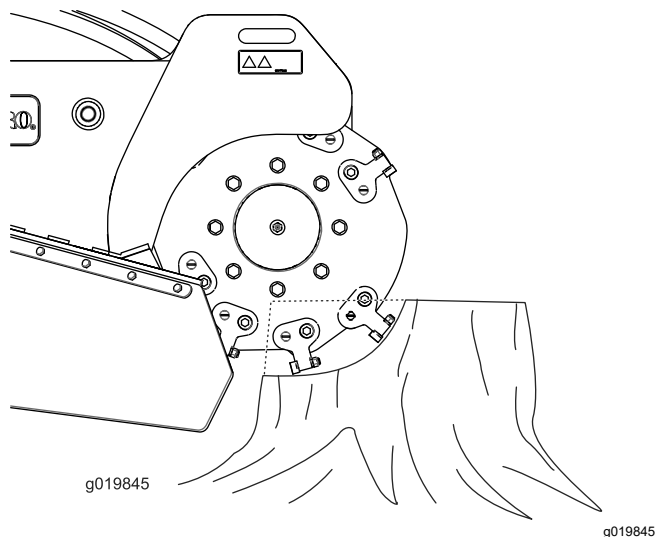

Figure 19
2. Use the grinder control lever and the traction control to position the grinder to the side of the front of the stump, about 2 cm (1 inch) below the surface (Figure 19).
4. Use the grinder control lever to swing the grinder slowly across the face of the stump, cutting away a swath of chips (Figure 19).